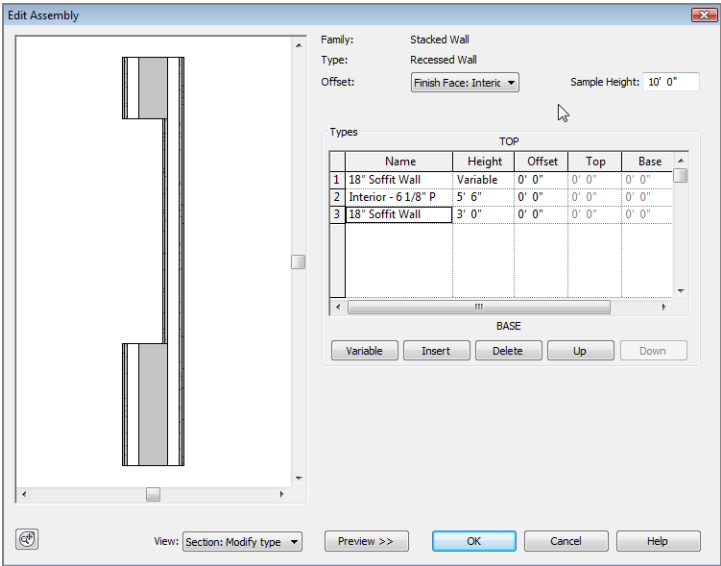

FIGURE 16.23: Creating the stacked wall
14. At the top of the dialog, change Sample Height to 10'-0" (3000mm) (see Figure 16.23).